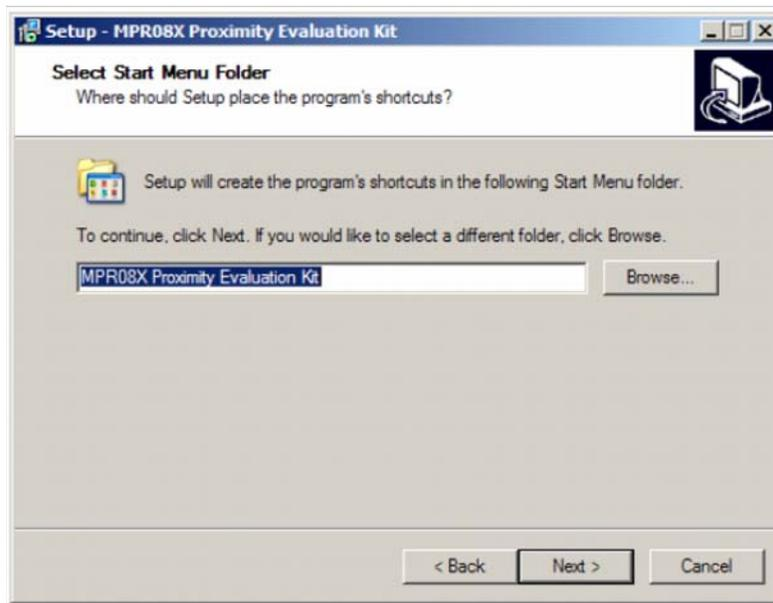

Figure 4. Start Menu Folder
- In the Select Start Menu Folder, the user must specify the name that will appear in the Start Menu folder. The default name in the MPR08X Proximity Evaluation Kit (Figure 4).